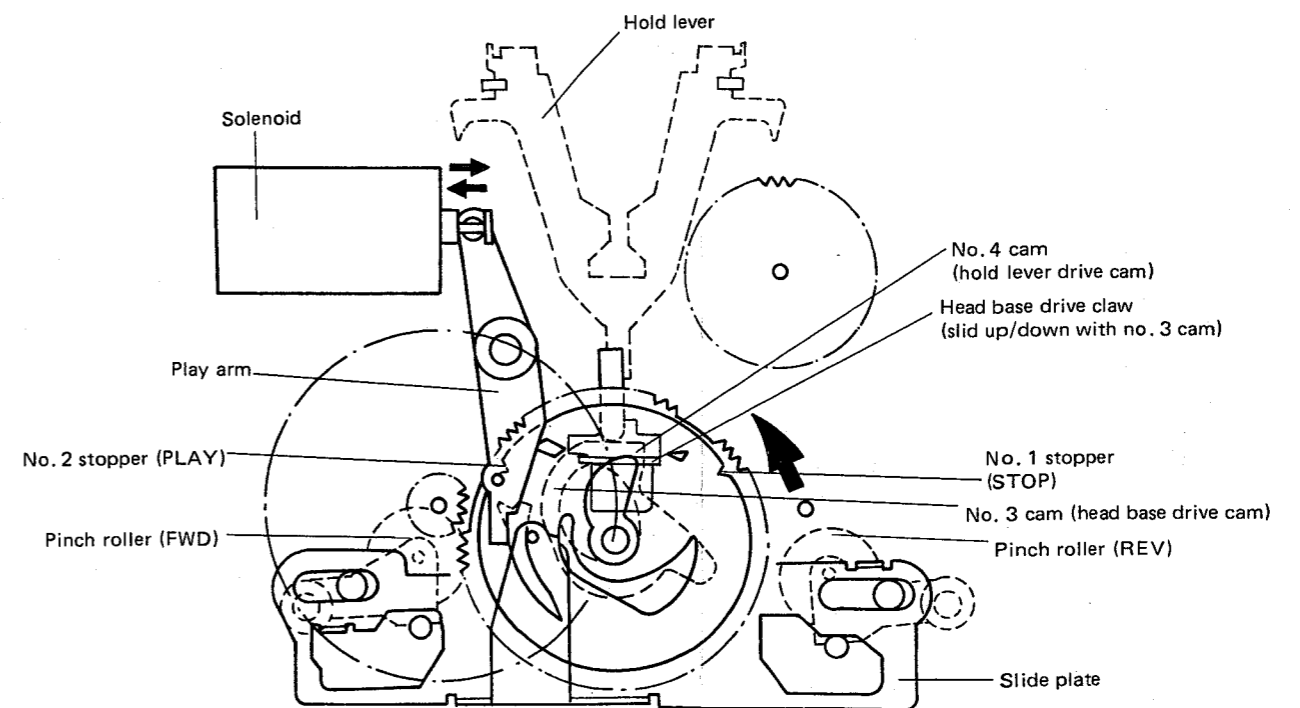

Fig. 1-4 Change from stop to forward playback mode
- (5) When the cam gear has been rotated by about 235°, no. 2 stopper on the cam gear meets the play arm pin and is subsequently stopped with the deck now in forward playback mode (see Fig. 1-4). In this condition,